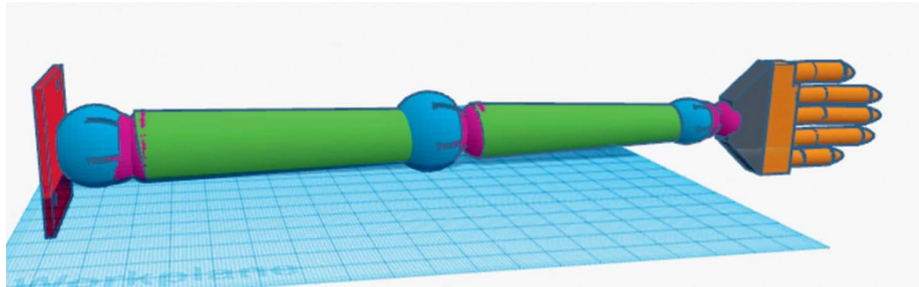

FIG. 6: A CAD Image showing the assembled arm with joints.
- Assemble all the parts (fig. 6). Test the product for its range of motion.